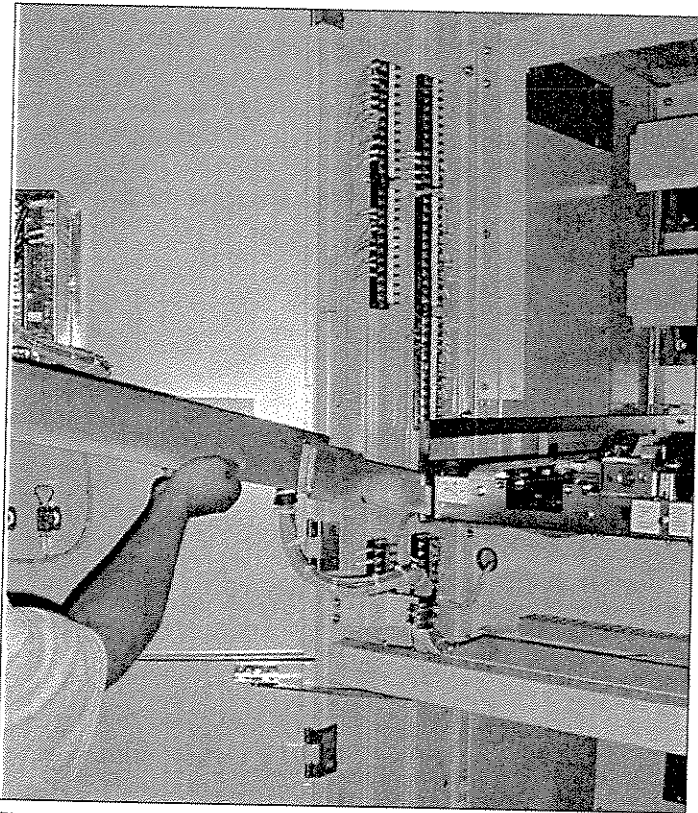

Figure 32. Insertion of the Draw-out Extension Rails.
1. The breaker compartment has a teeter-totter assembly on the compartment levering assembly, located on the inside of both the left and right hand rail assemblies. The purpose of the teeter-totter assembly is to prevent the breaker from being removed from the compartment without the extension rails in place (see Figure 32). In order to insert or remove a breaker from either the upper or lower position, a set of extension rails must be inserted into the left hand and right hand rail assemblies. This is achieved by inserting the appropriate rail, identified with a label, diagonally into the slot such that the extension rail when lowered places the teeter-totter assembly in a horizontal position and the rolling surface of the compartment rail and extension rail are flush. In this position, the breaker can be inserted or removed from the breaker compartment (see Figures 32 and 33).
1. The draw out auxiliary assembly compartment has a teeter-totter assembly on the compartment levering assembly located on the in side of both the left and right hand rail assemblies. The purpose of the teeter-totter assembly is to prevent the draw out auxiliary assembly from being removed from the compartment without the extension rails in place (see Figure 32). In order to insert or remove an auxiliary draw out assembly from either the upper or lower position, a set of extension rails must be inserted into the left hand and right hand rail assemblies. This is achieved by inserting the appropriate rail, identified with a label, diagonally into the slot such that the extension rail, when lowered, places the teeter-totter assembly in a horizontal position and the rolling surface of the compartment rail and extension rail are flush. In this position the auxiliary draw out assembly can be inserted or removed from the auxiliary compartment (see Figures 32 and 33).